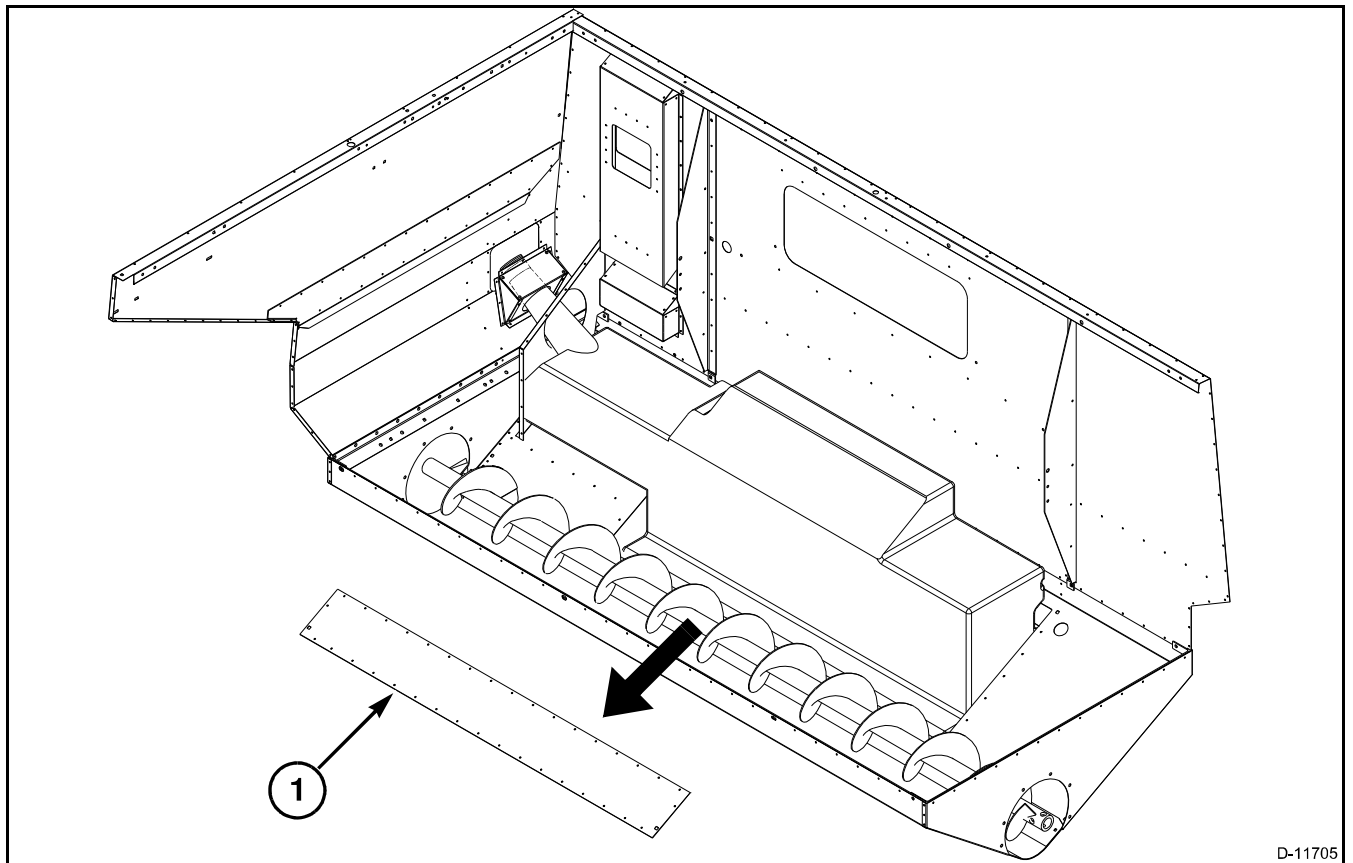

FIG. 216
FIG. 216: Using a suitable drill bit, remove the rivets fastening the fuel tank bottom cover (1) to the grain bin. Remove the fuel tank bottom cover from the grain bin and locate the fuel tank bottom cover out of the work area.